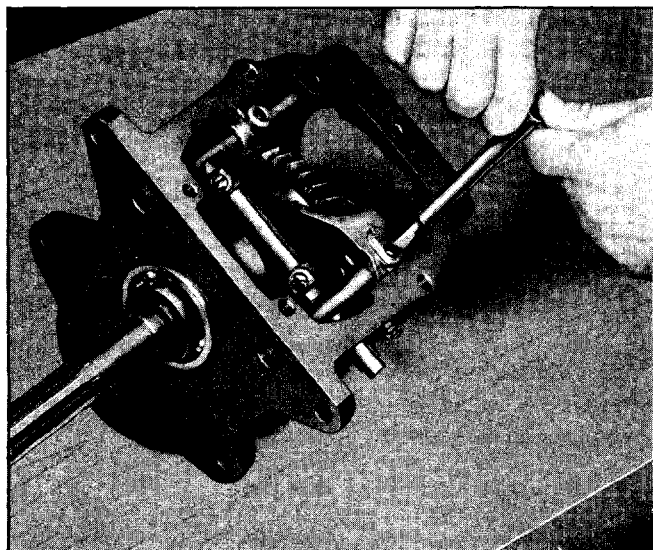

Fig. 7-20 Removing Shift Fork Lock Screws with Tool J-2895
a. With gears set in high position, remove shift fork lock screw (Fig. 7-20).